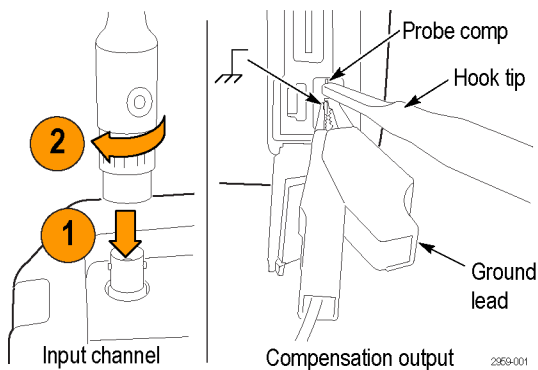

Figure 9: Probe calibration connections
1. Connect the test setup as shown. (See Figure 9.)